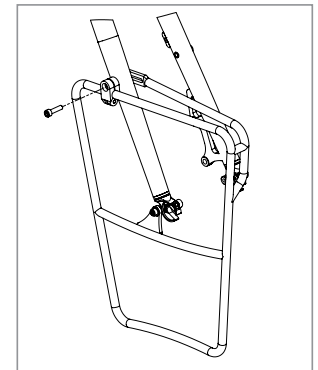

Figure 4
4. Install the M5 x 20mm bolt through the rack clamp and fully tighten to 4–6Nm (fig 4).